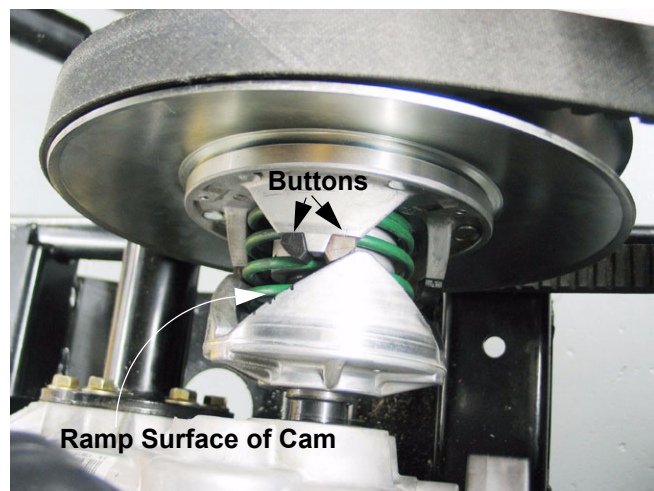

Figure 5.5
- 5.5. Key points to inspect on the driven pulley are the ramp surfaces on the cams, and the polymer buttons that ride against the ramps. See Figure 5.5.